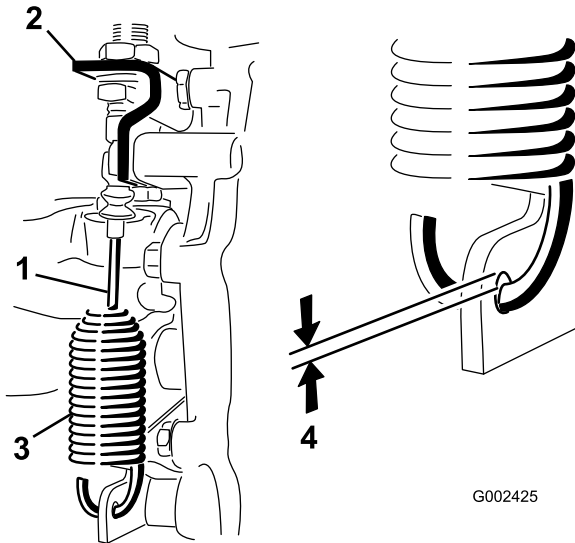

Figure 56
- Loosen the jam nuts securing the differential lock cable to the bracket on the transaxle (Figure 56).